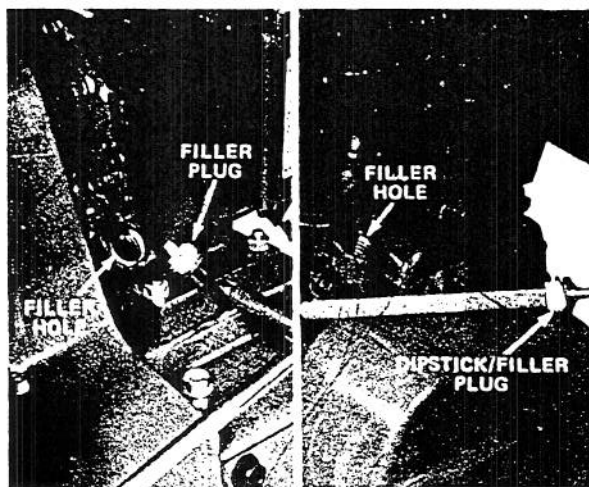

Figure 15
2. Clean the area around the oil filler plug so foreign matter cannot enter filler hole when plug is removed (Fig. 15 or 16).
3. Remove filler plug from crankcase (Fig. 15 or 16).
4. Slowly, pour SAE 5W-20 or SAE 10 oil into the filler hole (Fig. 15 or 16), using oil fill chart below. The engine uses any high-quality detergent oil having the American Petroleum Institute-API—"service classification" MS, SC, SD, or SE.
5 hp Snowthrower (Fig. 15)	21 ounces of oil
- A. 5 hp Snowthrower (Fig. 15)—First, rock snowthrower gently to release any air that is trapped in crankcase. Next, if required, add oil to point of overflowing in filler hole. Then install filler plug, and wipe up oil that may have spilled.